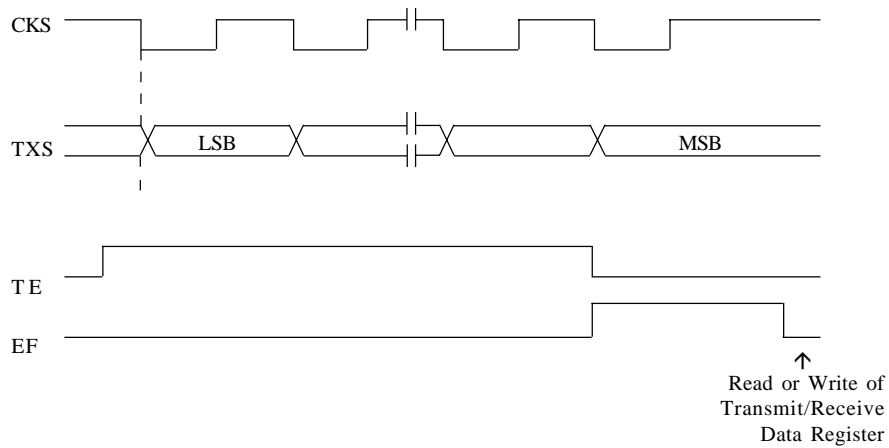
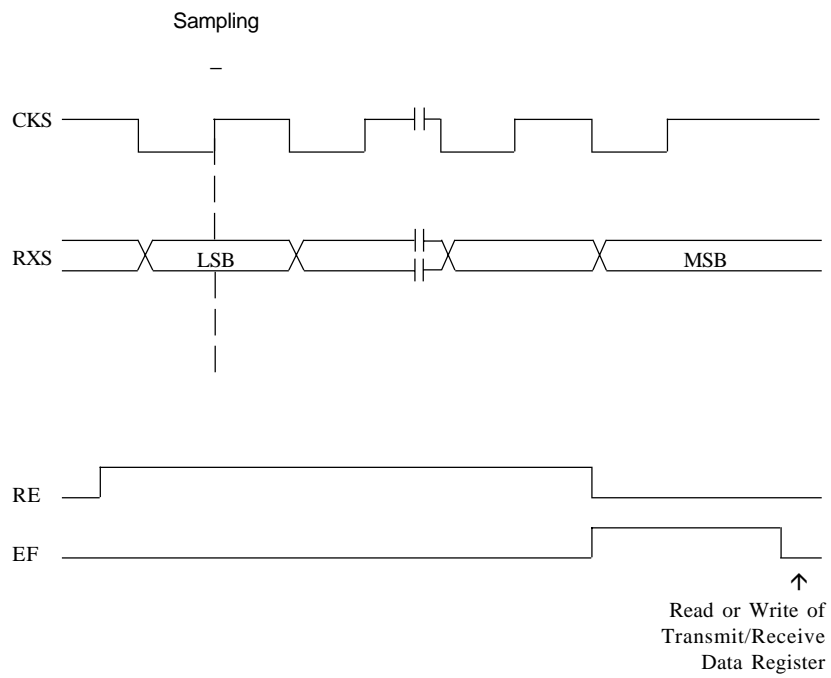

Figure 37
Figure 40
- (1) Note that transmitter clocking and receiver sampling timings are different from internal and external clocking modes. Fig 37 to Fig 40 shows CSI/O Transmit/Receive Timing.
- (2) The transmitter and receiver should be disabled ( $TE$  and  $RE = 0$ ) when initialising or changing the baud rate.